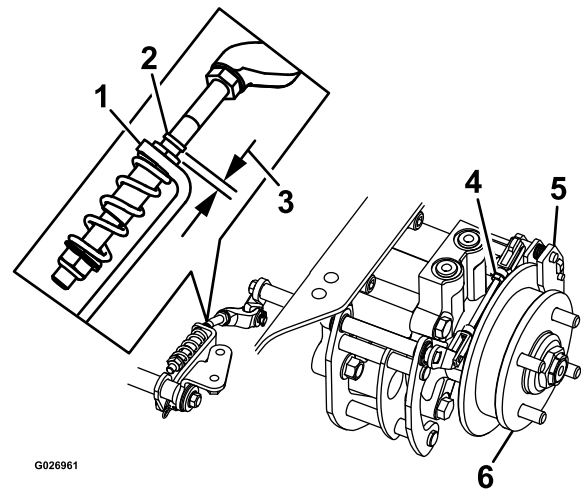

Figure 75
8. Check if there is a visible gap between the L-bracket and the linkage stop (Figure 75).